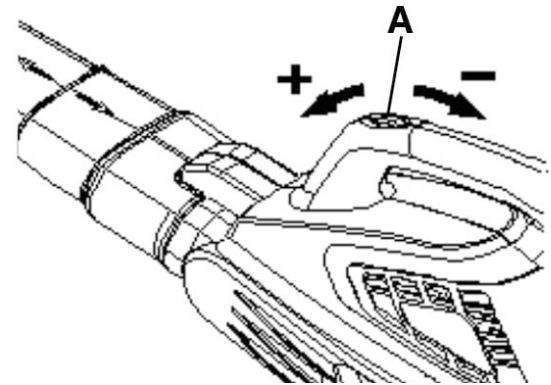

FIGURE 8
This blower/vacuum/mulcher comes with a variable speed dial (A) Fig.8 which controls the amount of air flow during use (blower or vacuum/mulcher mode). Fig.8 shows which direction to turn the variable speed dial to increase or decrease the air flow when in blower mode. In vacuum/mulcher mode, it is the opposite.